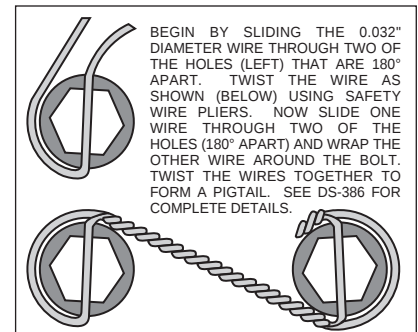

Figure 4. Safety Wire Diagram
- To accommodate several model years, multiple holes have been drilled in the caliper mounting bracket (1). Rotate the bracket until the two correct holes that align with the mounting holes in the face of the spindle are located. Apply red *Loctite*® 271 to bolt threads (2) before assembly of the caliper mounting bracket (1). Mount bracket (1) to dust face plate of spindle using bolts (2). Torque bolts (2) to 22 ft-lb. **NOTE:** Be sure the heads of the caliper bracket (1) insert nuts are facing outward toward the wheel.
- Install wheel studs (3) into the hub (4). Torque to 77 ft-lb. **NOTE:** There are two five lug patterns in the hub (5 x 4.50 and 5 x 4.75). Make sure of the correct hole pattern for the correct wheel application before installing studs into hub.
- Pack the large inner bearing cone (5) with high temperature disc brake bearing grease (available from your local auto parts store) and install into the backside of the hub (4).
- Install the grease seal (6) by pressing into the backside of the hub (4).
- Attach rotor (7) to hub (4) using bolts (8). Torque bolts (8) to 22 ft-lb. Safety wire bolts (8) using standard 0.032 inch diameter stainless steel safety wire as shown in Figure 4. Please refer to Wilwood's data sheet DS-386 (available at www.wilwood.com/pdf/ds386.pdf) for complete safety wire installation instructions. **NOTE:** The counterbored side of the steel rotor (7) should face away from the hub (4).
- Pack the small outer bearing cone (9) with high temperature disc brake bearing grease and install into front of hub (4). Slide the hub/rotor assembly (4 and 7) with outer bearing cone (9) onto the spindle. Secure using stock washer, adjusting nut and nut locking device. Adjust bearings per Original Equipment Manufacturer (OEM) specifications.
- Install the dust cap (10) onto the hub (4). Friction created by the o-ring (11) on the dust cap (10) keeps it from unscrewing. The O.D. of the existing spindle washer may be larger than the I.D. of the dust cap (10) not allowing it to seat against the hub face. Some grinding on the washer O.D. may be necessary to clear the I.D. of the dust cap (10).
- NOTE:** Please reference the caution statement at the beginning of the assembly instructions. WITH THE BLEED SCREWS POINTING UP, mount the caliper (12) onto the caliper bracket (1) using lock washers (13) and bolts (14). Finger tighten. View the rotor (7) through the top opening of the caliper (12). The rotor (7) should be aligned in the center of the caliper (12). If not, adjust the caliper (12) by using 0.032 inch thick shims (15) placed between the caliper mounting bracket (1) and the caliper (12). Use as many shims as necessary to obtain the correct alignment. Finger tighten. Apply red *Loctite*® 271 to bolt threads (14) and torque to 30 ft-lb. Safety wire caliper bolts (14).
- Install the disc brake pads (16) and secure using retainer clip (17).